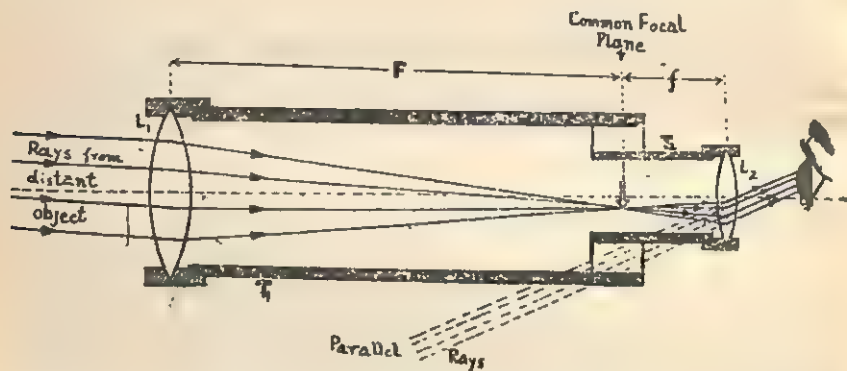

Fig. 11.20. Course of rays coming from a distant object through a telescope.
**Theory.** The front lens of a telescope which points towards the object is called *Objective*. The purpose of objective is to collect light from the distant object and to form a real image of it in front of the second lens, which is called the *Eye-Piece* because it is near the eye of the observer as shown in Fig. 11.20. If  $F$  and  $f$  are the focal lengths of the *objective* and the *eye-piece* respectively, then the distance between the two lenses is  $(F+f)$ . For this separation of the two lenses telescope is said to be in the *normal adjustments*. The objective  $L_1$  forms the real image of the distant object at the common focal plane of the two lenses. This image acts like the object for the *eye-piece* and thus the final image is formed at *infinity*. Of course, the parallel rays emergent out of the *eye-piece* are focused by the eye at its retina. For the normal adjustment, the eye sees the image in a *relaxed* manner. The magnifying power of the telescope under normal adjustments is equal to  $(F/f)$ .
(1) Fix the objective lens  $L_1$  (30 cm. focal length) at one end of the tube  $T_1$  and the eye-piece  $L_2$  (5 cm. focal length) at one end of the other tube  $T_2$  as shown in Fig. 11.20.
(2) Slide the tube  $T_2$  into the tube  $T_1$  as shown. Provision should be made such that the tube  $T_2$  does not come out of the tube  $T_1$  automatically. Now this telescope can be used to observe distant objects as discussed below.
(3) Point the telescope towards a distant object such that its objective  $L_1$  is towards the object and the eye-piece  $L_2$  is close to the eye of the observer. Now adjust the position of the eye piece by sliding the tube  $T_2$  to get a distinct and inverted image of the distant object.